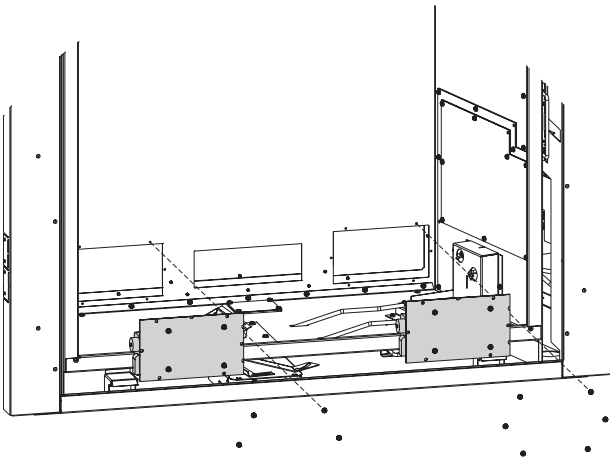

Figure 9
4. Remove Blower Brackets by taking out (6) screws each. **See Figure 9.**